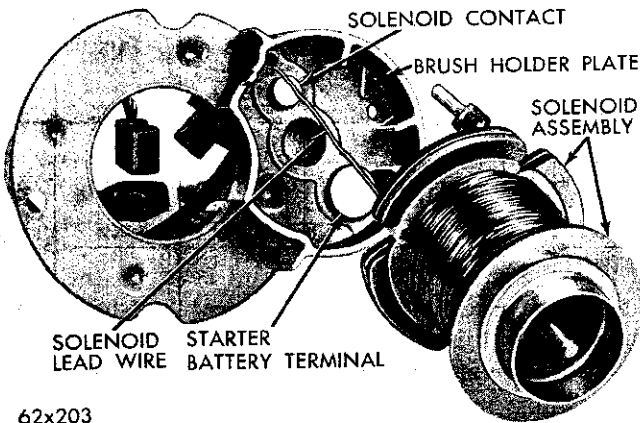

Fig. 21—Assembling the Solenoid to the Brush Holder Plate
(16) Enter the solenoid lead wire through the hole in the brush holder (Fig. 21) and install the solenoid stud, insulating washer, flat washer and nut.